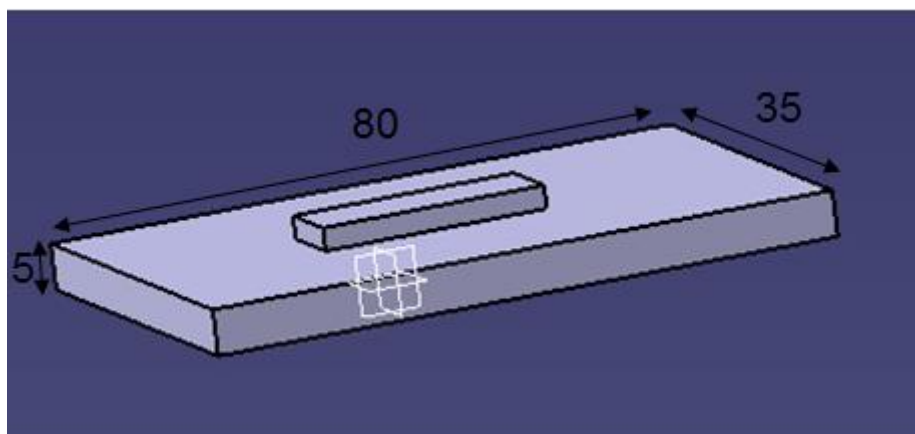

Figure 3.5:Table
1. Table: base to carry the stone.(**Figure 3.5**)